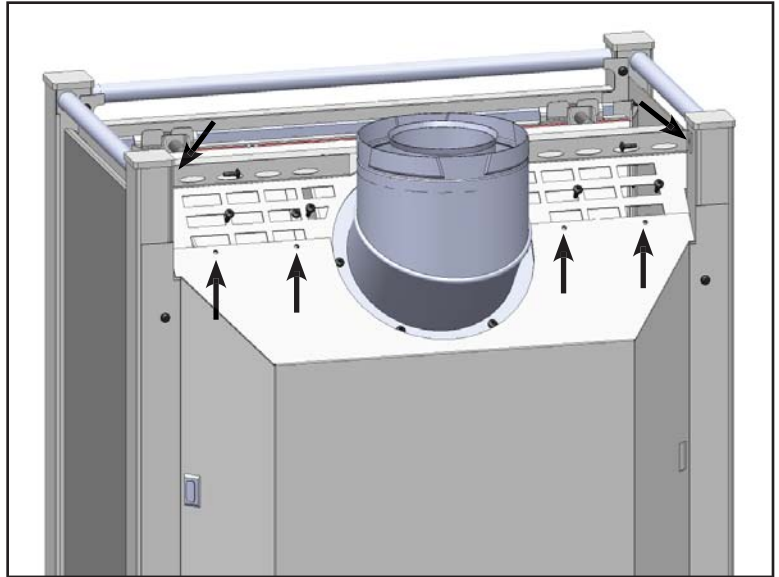

Fig.21
2. Remove screws from top rear grill assembly (1 screw each side of leg, two screws each side of flue collar). (Fig.21)